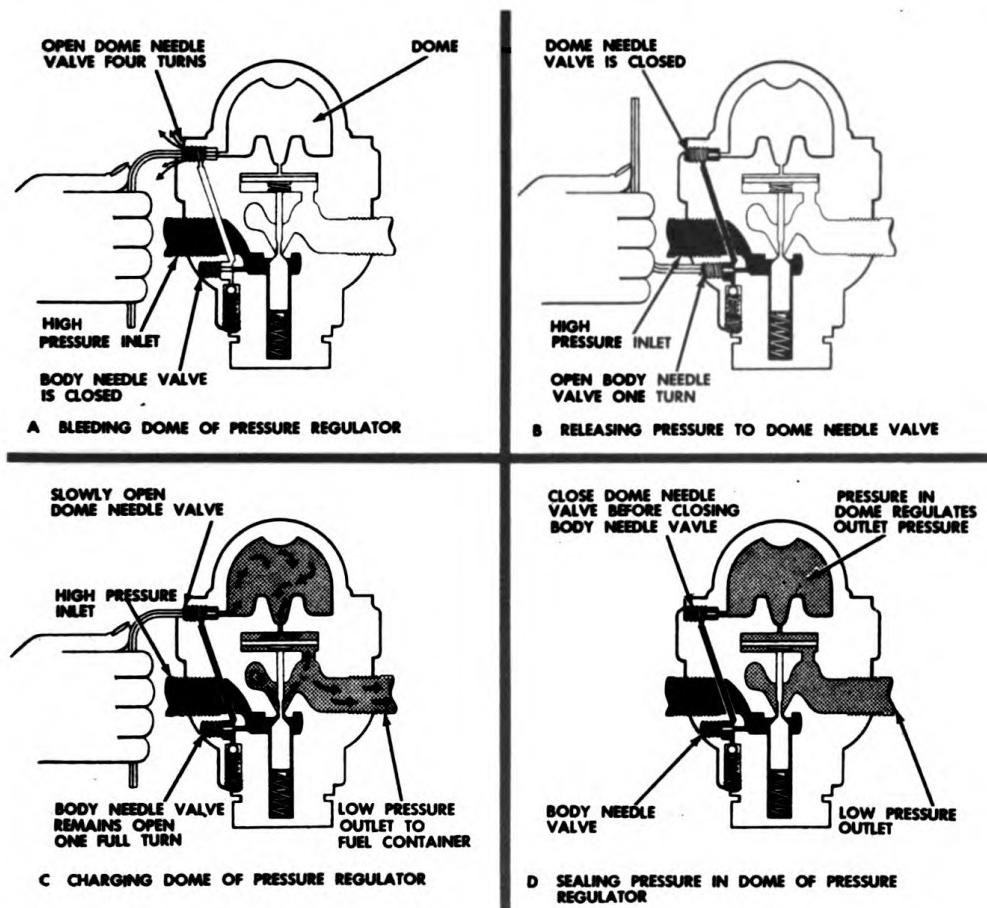
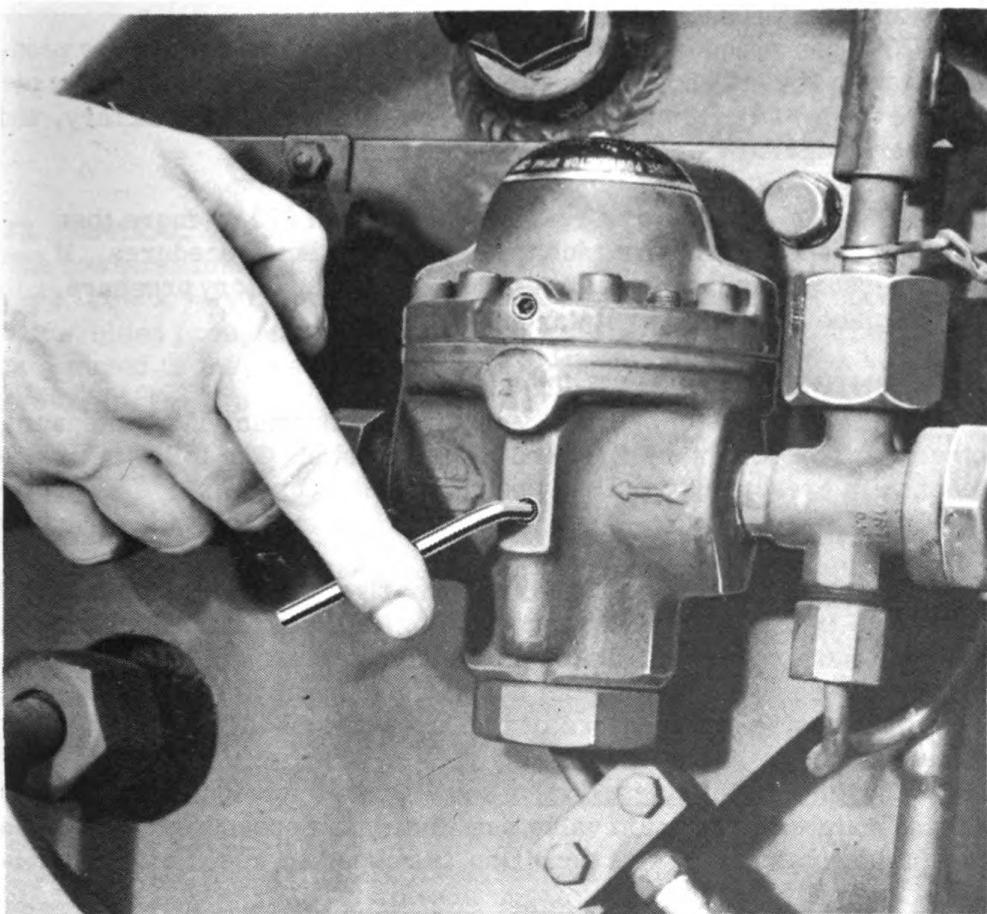

Fig. 57. Diagrammatic sketch showing adjustment of pressure regulator.
Fig. 59. Closing body needle valve.
- (7) Bleed dome of regulator as follows (fig. 57):
- (1) Open pressure container valve.
- (2) Open pressure cut-off valve.
(3) Using hex wrench, open body needle valve one full turn (fig. 57). (Hissing sound results from leakage of air around body needle valve threads.)
(4) Open dome needle valve slowly, using hex wrench, and observe rise of pressure indicated on low pressure gage. When indicator reads between 370 and 380 pounds per square inch, close dome needle valve.
- (5) Close body needle valve (fig. 59).